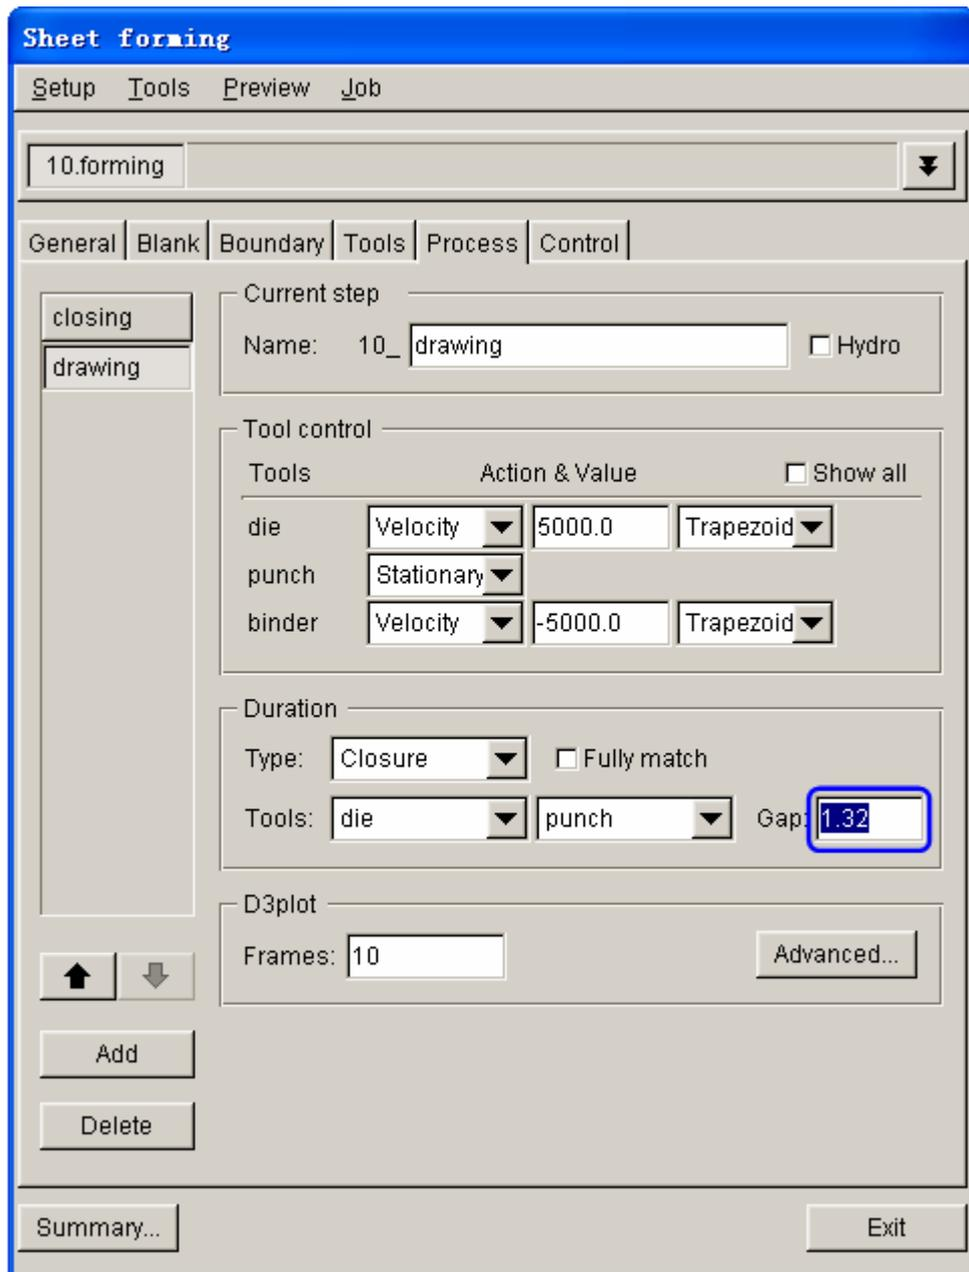

Figure 5.72 Drawing process interface
3. Select **drawing** process from the list located at left side of the interface as the current process. See Figure 5.72.
4. Set Gap in drawing as 1.32. See Figure 5.72.
3. Verify the other settings are similar to those illustrated in Figure 5.72. Then, click **Apply** button to create the new process.